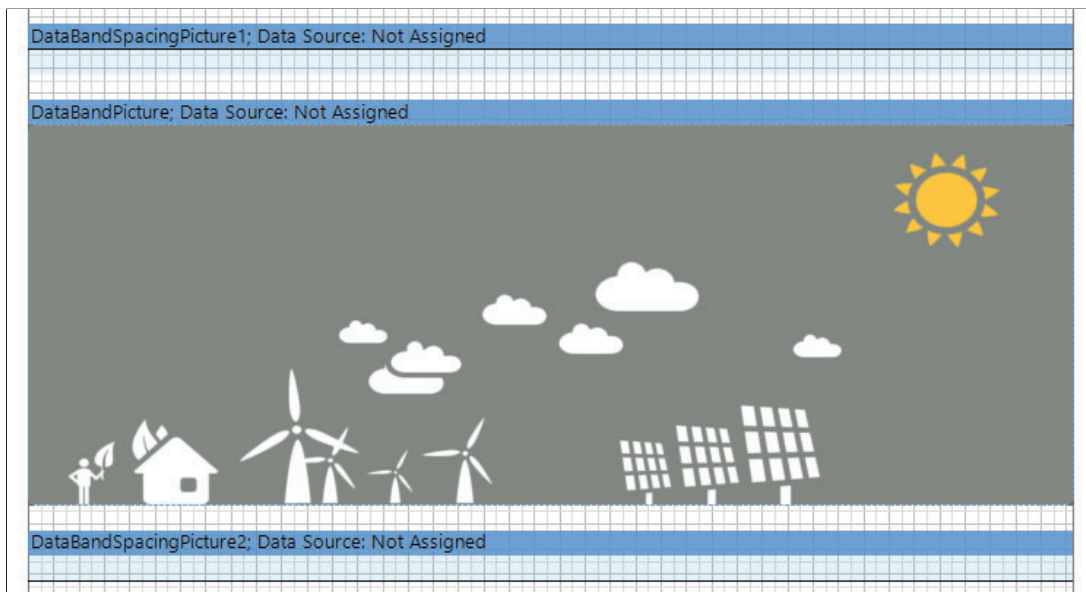

Figure 4.3: Report "Company Title Page" - Part 2
- An example for the report format is shown in Figure 4.3.